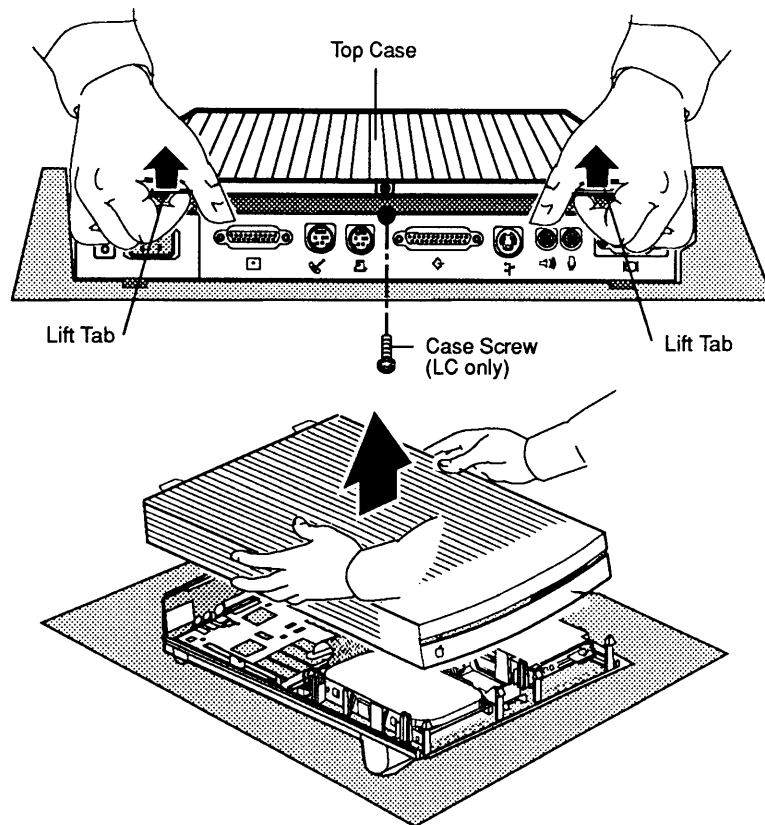

Figure 2-1 Removing the Top Case
2. If necessary, remove the case screw (**Figure 2-1**).
3. Lift the tabs at the back of the lid (**Figure 2-1**). Lift the top case straight up and off the bottom case.
2. Replace the case screw, if present (**Figure 2-1**).